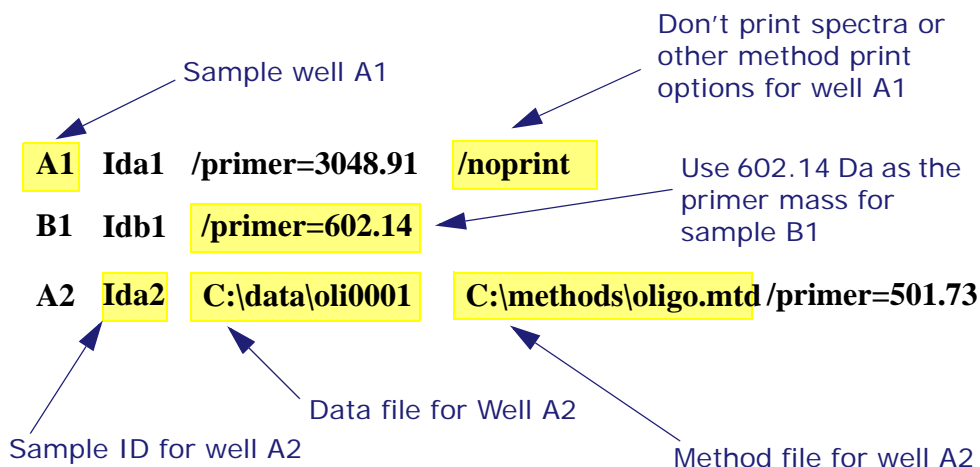

Figure 15.21 Part of an ASCII experiment file in Oligo Analysis
The greater degree of automated action introduced with the Axima series of instruments has already been described. The Oligo Analysis experiment has been incorporated into this automated mechanism, it is assumed here that the user is already familiar with the running of automated Axima experiments. Select a suitable acquisition method, (i.e. including at least a Laser Firing node in the method tree). The Oligo Analysis node must be selected. Oligo Analysis requires that a sample identification code (ID) and a primer mass be supplied for each sample well analysed, these are input via an ASCII experiment file. The file consists of a single line for each sample well to be analysed. The file can also optionally specify a data file, a method file and a flag to suppress printing options for the current sample. An oligo specific example of an ASCII experiment file might be as shown in Figure 15.21.